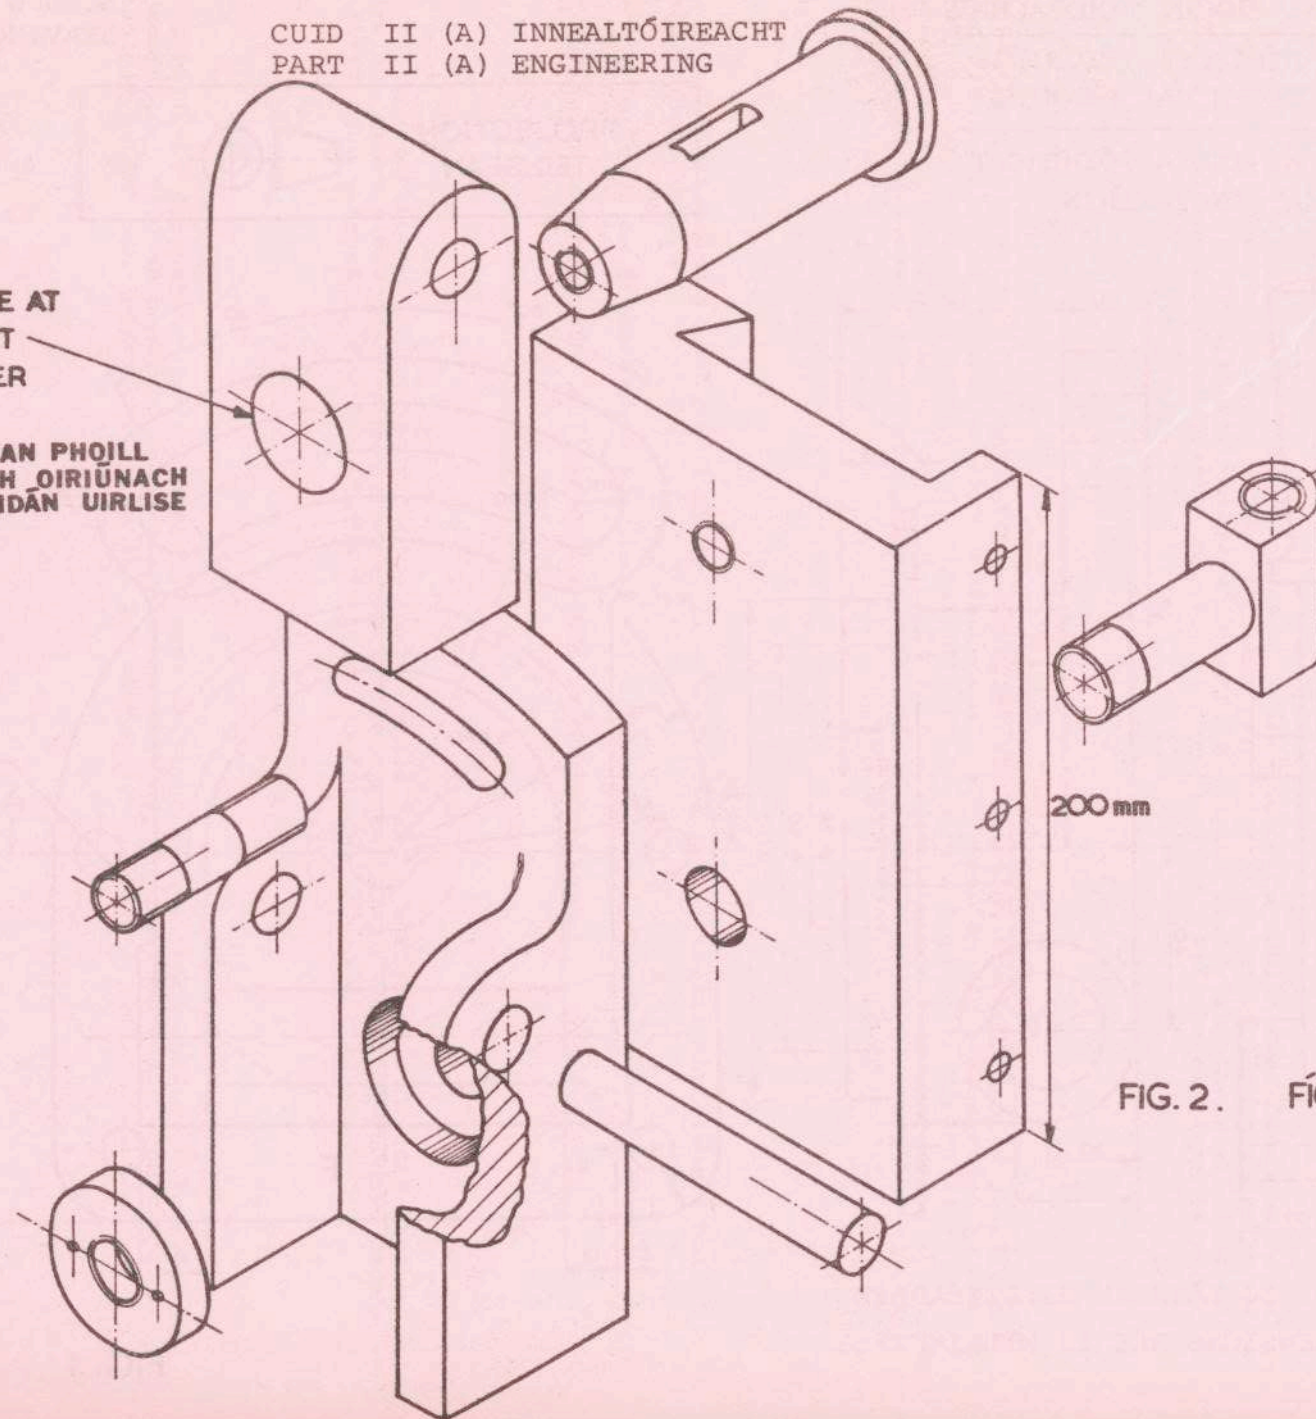

FIG. 2. FÍOR 2.
2. An exploded view of a tool post and clapper box assembly for a shaping machine is shown in Fig. 2. Sketch, freehand on plain paper, two views of the completed assembly. The views should be in orthographic projection and selected to describe the shape and assembly of all the parts clearly. The sketch should be in good proportion and approximately full size to the dimension given.
2. The line diagram in Fig. 2 represents the vertical section through an overhead garage door in a partly open position. AD represents the section of the door. As the door opens the top of the door A slides horizontally and C slides vertically to E. The arm BE is pivoted at B and E. Plot the locus of the bottom of the door D as the door is opened fully. Scale 1 : 20.
(FIG. 2 - SEE OVER)